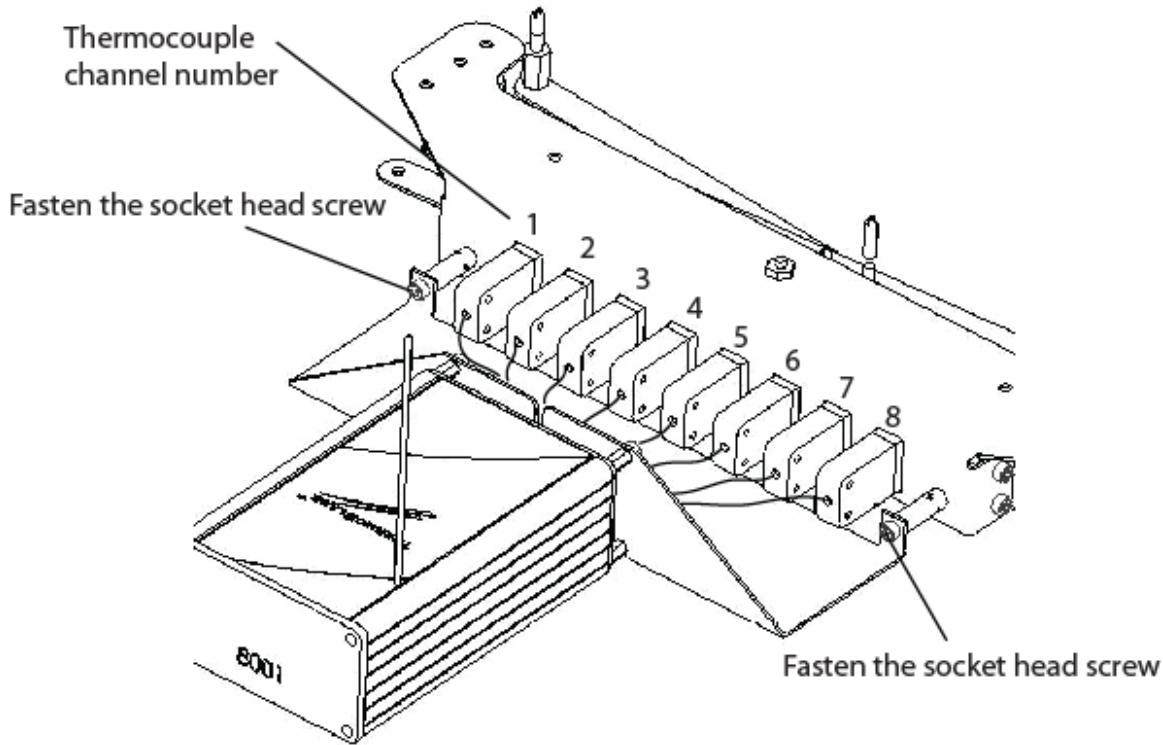

Figure 2. Connecting the TC-Bridge and ThermoBlade
2. Position TC-Bridge in front of ThermoBlade, as shown in Figure 2. Use the two (2) 6-32 socket head cap screws to connect the TC-Bridge and ThermoBlade as shown.